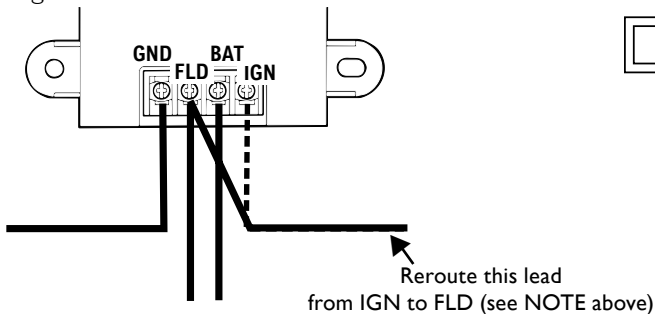

Figure 3 – 50-VR Regulator Modification
- 50-VR regulator (refer to NOTE below) – see Figure 3. Disconnect IGN lead at IGN terminal on regulator and reconnect to FLD terminal on regulator. Torque screw to 1.4 – 1.7 Nm/ 12 – 15 lb. in.